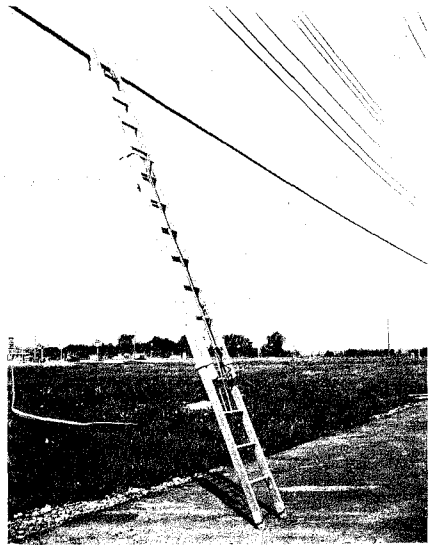

Fig. 5 — Base of Ladder Properly Positioned
**5.02** Set a ladder only on secure footing. Set both feet of the ladder at the same level and on a line parallel to the surface on which the top of the ladder rests. If necessary, employ a ladder wedge or remove earth from beneath the high side to bring it to the level of the lower side. *Never increase the length of a side rail by nailing a board to it.* If a ladder leans to either the right or the left, it is not properly placed. Always place an extension ladder with the top section to the front. A well placed ladder is shown in Fig. 5.